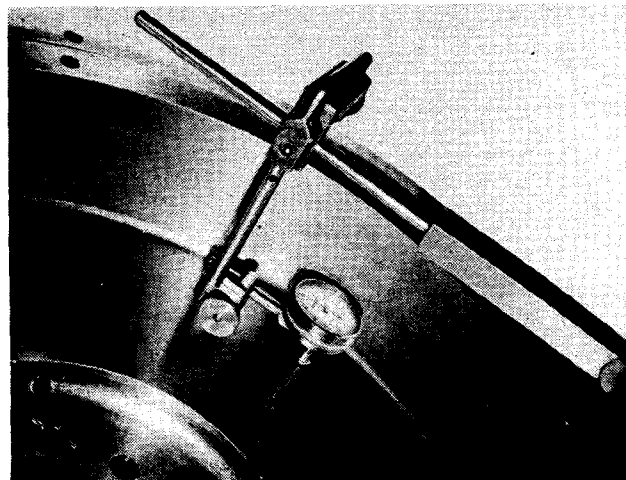

Fig. 14-48, (N114139). Indicating flywheel clutch face
- a. Shift gauge to clutch face of flywheel. Fig. 14-48.